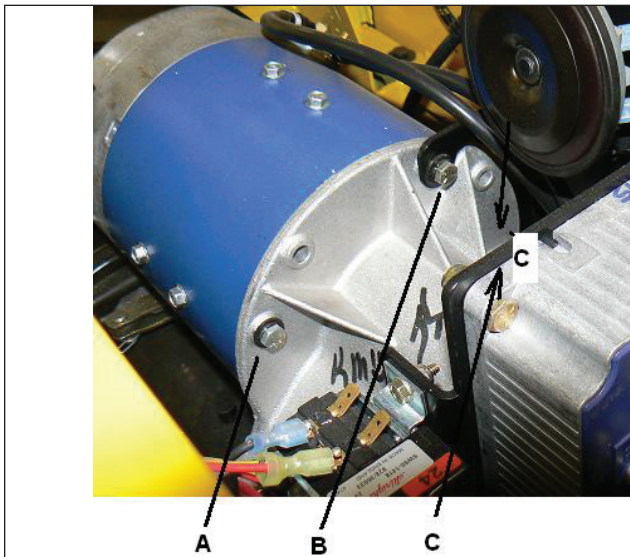

Figure 7-34. Motor Attaching Bolts
7. Refer to Figure 7-34. To evenly draw the face of the motor up to the flange on axle, tighten screws A and B, then tighten screw C. Now, torque screws A and B to 100 in. lbs. (11.3 Nm), then torque screw C to 100 in. lbs. (11.2 Nm).